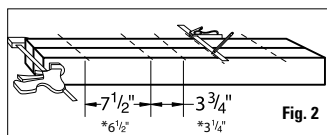

Fig. 2
Step 2: Cut rails and mark. Cut top and bottom rails to length and clamp together. Locate the center of the rails and mark. If using an odd number of balusters, the balusters will start at the center of the rail. If using an even number of balusters, the balusters will start 3-3/4" on center either side of center, with all balusters 7-1/2" on-center. Mark both rails 7-1/2" on-center, starting at the desired location. (Fig. 2)